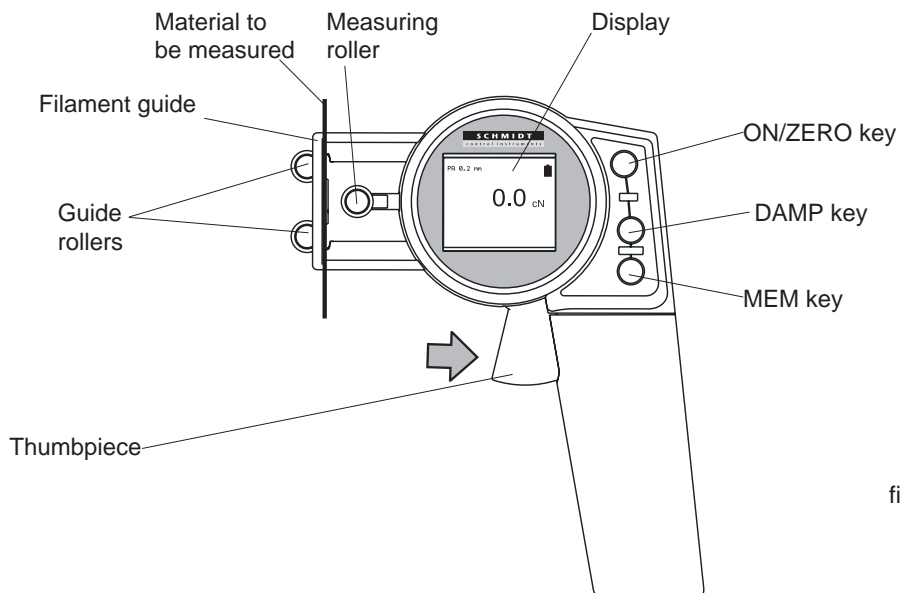

fig. 3.5.2
- Capture the process material with the filament guide (see fig. 3.5.2).